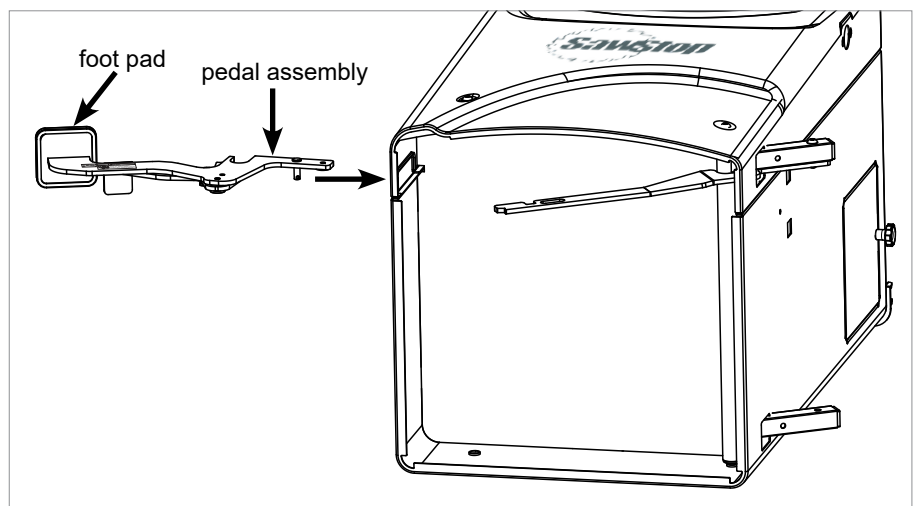

Fig. 9
9. Locate the pedal assembly and insert it into the hole in the left side of the cabinet as shown in Fig. 9. Insert the pedal assembly as far as possible and make sure that the foot pad is facing the top of the cabinet.